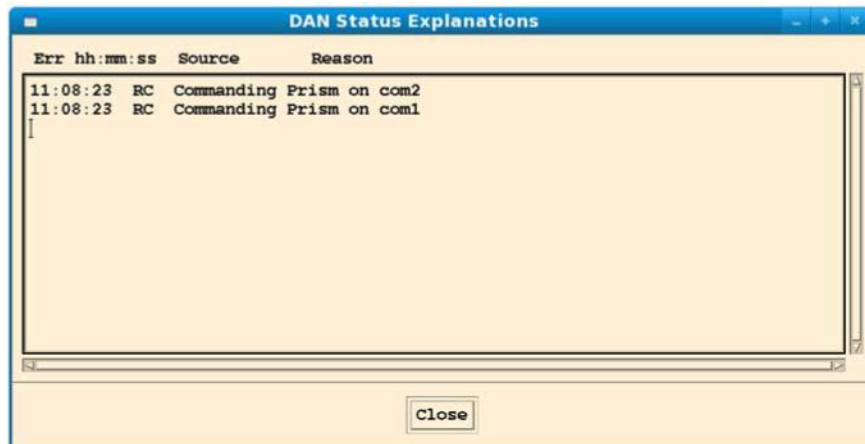

Figure 8-12: DAM Status Explanation Window
- b. Search the pop-up window for error messages regarding the motorized devices (Figure 8-12).